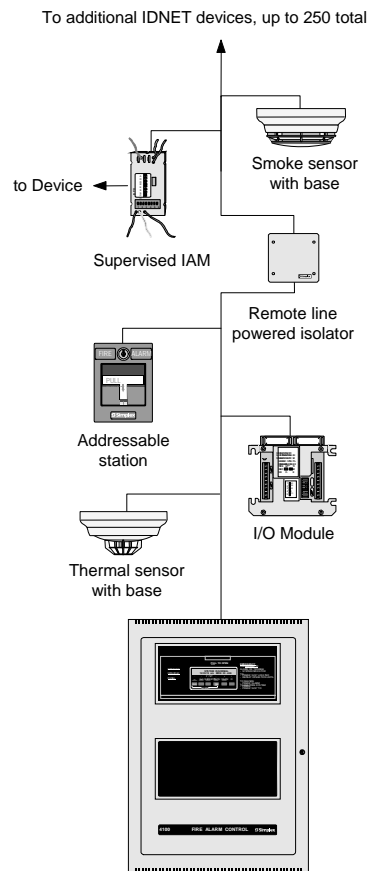

Figure 1-1. Basic 4100ES-S1 System
- Figure 1-1. Basic 4100ES-S1 System 1-2
All appliances and devices are connected to this one cabinet, as shown in Figure 1-1.